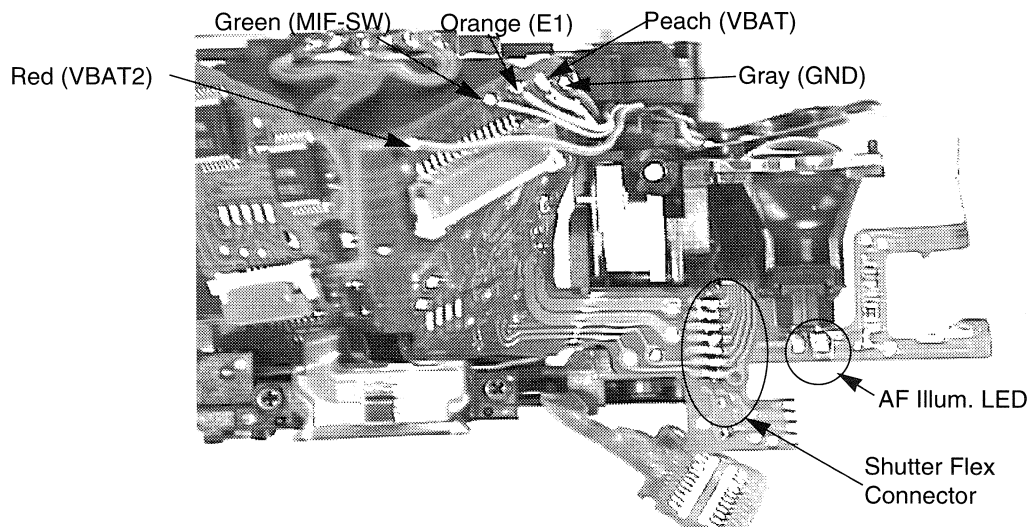

Fig. 3-19 Main Flex (Upper)
4. Unsolder the AF-Illuminator LED (Fig. 3-19).
6. Unsolder the SI-LED connections (Fig. 3-19).